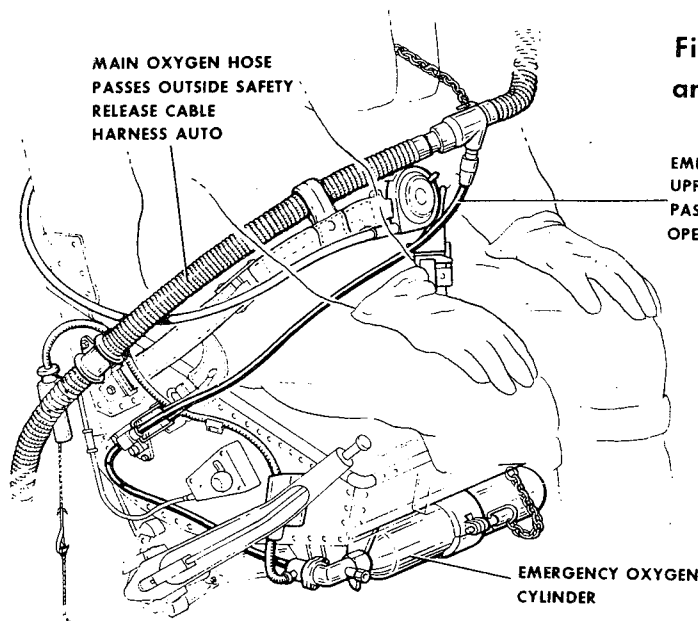

Fig. 4 Arrangement of oxygen supply on seat
- (2) Place the safety harness shoulder straps over the back of the parachute pack container and ensure that the lap straps, leg restraint cords and negative-g restraint strap are clear of the seat pan.
- (3) Sit in the seat and raise it fully.
- (4) Fit the emergency oxygen cylinder into its mounting bracket, ensuring that the operating head is to be the starboard side of the seat and that the supply tube faces aft.
- (5) Clamp the cylinder into its bracket and fit the locking pin into the clamp.
- (6) Secure the bayonet union plug of the supply tube in the clamp on the starboard side of the seat pan and, having arranged the tube as shown in fig. 4, fit it into the spring clip below the clamp.
- (7) Fit the emergency oxygen cylinder operating cable housing into the two clips on the starboard side of the seat pan.
- (8) Ensure that the cable housing passes outside the safety harness lap strap and UNDER the main oxygen supply hose (which should be outside all straps and cables) and does not loop over the safety harness automatic release cable; connect the operating cable to the anchor section of the static line and fit the housing ferrule into the anchor socket.
- (9) Connect the anchor hook to the static line-cum-manual operating cable.
18. The strapping-in procedure is as follows reference being made to figs. 4 to 7 as necessary.